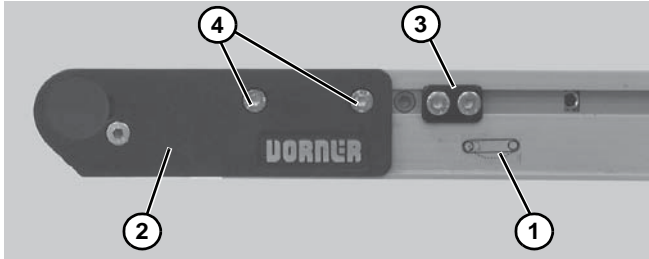

Figure 22
- On tension end of the conveyor, identified with a  label (**Figure 22, item 1**), push in head plate assembly (**Figure 22, item 2**): On both sides of conveyor, loosen and move cam tracking assemblies (**Figure 22, item 3**) (if equipped) away from head plates, then loosen fastening screws (**Figure 22, item 4**) and push head plate assembly inward.